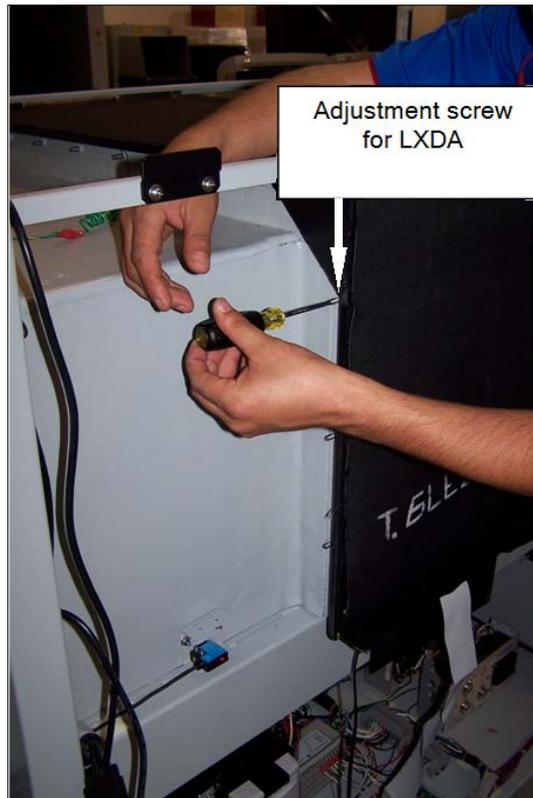

Figure 78: LXDA Board Adjustment Screw
The adjustment screw for the LXDA boards is accessible from outside the LXDA, without having to remove the LXDA cover, as shown in Figure 78.
7. Adjust each LXDA board position by turning the side screw to one side gradually as shown in Figure 78, watching the Diode Plot graph. The values of the diodes for this particular board will rise to a certain point and then start to descend. As soon as the values begin to descend, back off until the values are again at their highest level. Repeat the procedure for all the other boards until you achieve the highest HE and LE values on that Diode Plot graph.